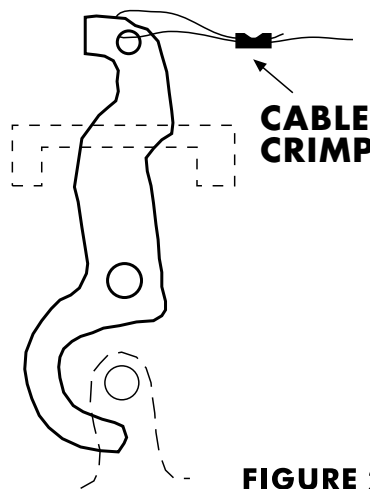

FIGURE 2
4. Create a loop with the cable and secure with the aluminum crimp around the door latch. (See figure 2) Run cable through door avoiding all moving parts to the solenoid.